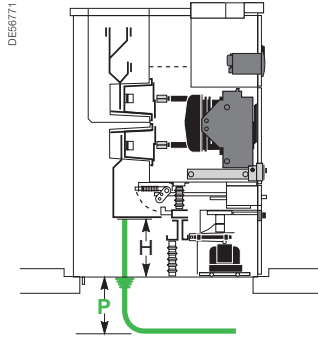

Figure 1
(1) When installing a LV core balance CT, use a type ARC3 LV core balance CT when connecting with two cables (see page 77).
- The cubicles and cables requiring the maximum depth should be taken into consideration when determining the depth **P** of a switchboard cable duct (Figure 1).